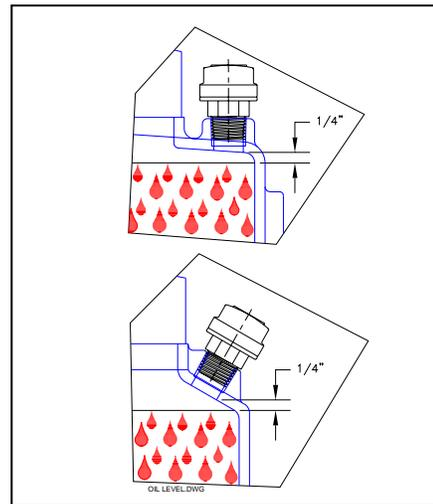

FIGURE 1A
- 1.0.11 Set capacity knob to zero and remove Air Bleed Plug from the top of Oil Chamber, refer to drawings HP-1102 (page 21) for Series 500 and drawing 5024 (page 27) for Series 500-A and 500-E for location of plug. Fill gear box and pump by pouring the hydraulic fluid supplied through the fill opening at the rear of the pump. Pour fluid in slowly until it has reached the correct level per Figure 1A. Do not over fill as this can cause damage to the motor.